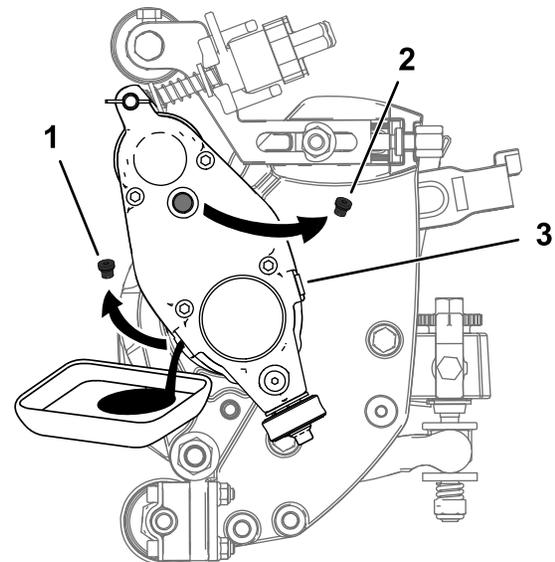

Figure 30
5. Tip the cutting unit vertically until the drain port is at the bottom to ensure complete drainage (Figure 30).